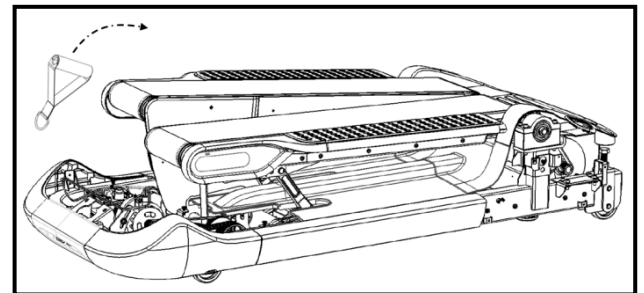

Fig.5
5. Remove and store the transport grip handles (Fig. 5) once the TreadClimber base is safely on the floor. The transport grip handles can be reattached for future transport.